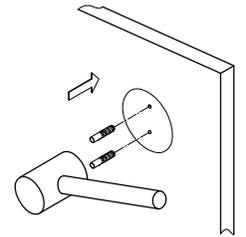

Fig. 4
- Step 3. Insert anchors into the holes with a hammer until flush with the wall (fig 4).